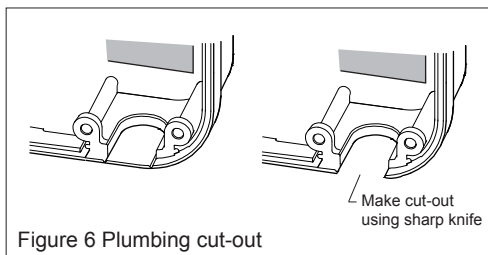

Figure 6 Plumbing cut-out
- 4.9 Plumbing entry can be from the rear (preferred) or from the bottom. The backplate has a cut out position to suit 15mm pipe. When opting for bottom entry make cut out before fitting backplate to the wall - see Figure 6 below.